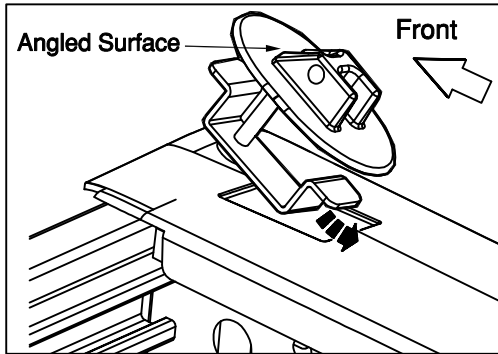

Fig. 5
6. Rotate the assembled Front Base into the front stake pocket hole. The front locations must be oriented so the angled surface is facing the front of the vehicle. (See Fig. 5) While inserting the bracket, twist slightly towards the outside of the vehicle. Hand tighten only.